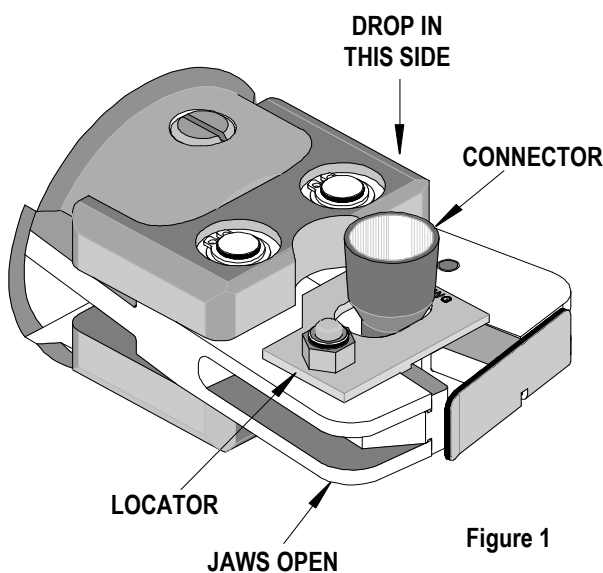

Figure 1
1. Hold airhead crimp tool with the locator facing up. Insert the closed end connector in the slot (8). Make sure that the shoulder of the connector is resting on the locator plate. See Figure 1.